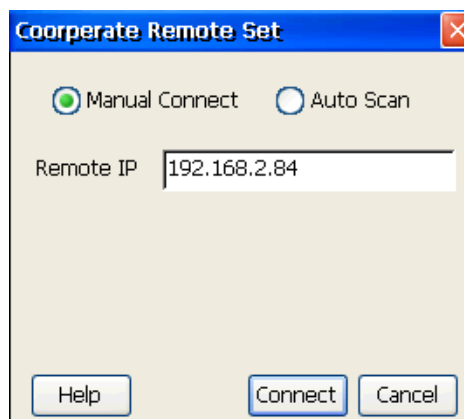

Figure 6.3.5 Auto Cooperation
Step 1: Click “Network Performace” → “Cooperation” to select cooperation mode, Remote Cooperation, as is shown in figure 6.3.5.